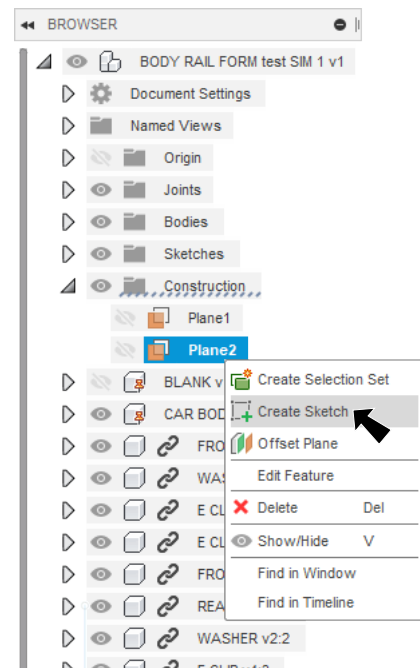

Fig. 4
Step 6. Expand **Construction** folder, right click **Plane2** (Plane created in Render Chapter) and click **Create Sketch** from menu, Fig. 4.